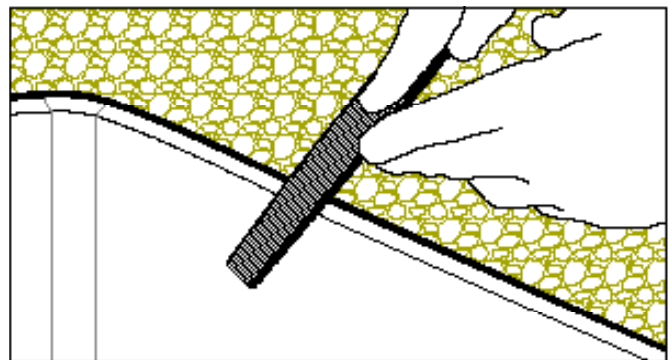

Figure 13B
- Lightly file at a 45° angle. (FIG. 13B)